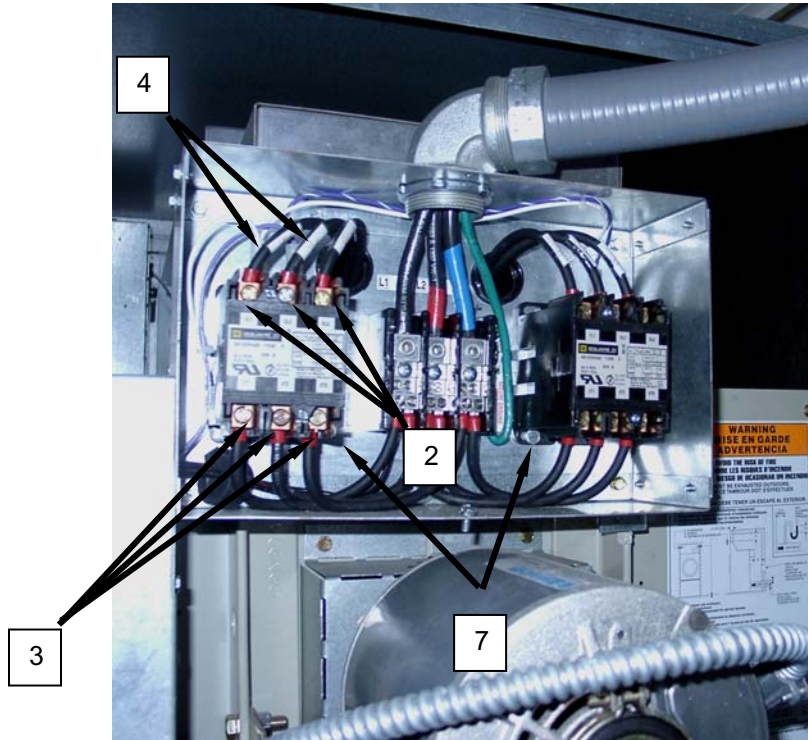

Figure 3. Test the Heat Contactors.
3. Locate the two heat contactors (**Figure 3, Item 7**).
5. Check for 210 VAC across primary terminals L1, L2, and L3 (**Figure 3, Item 2**). If no voltage is present, refer to WP 0010 for dryer troubleshooting procedures.
6. Use a voltmeter to check for 210 VAC across secondary terminals T1, T2, and T3 (**Figure 3, Item 3**).
9. Disconnect the white and red wires (**Figure 3, Item 4**) from the contactor control circuit, and use an ohmmeter to test for 0 to 2 ohms across the two terminals. Replace an open contactor.
10. Reconnect the white and purple-and-white striped wires (**Figure 3, Item 4**) to the contactor control circuit terminals.